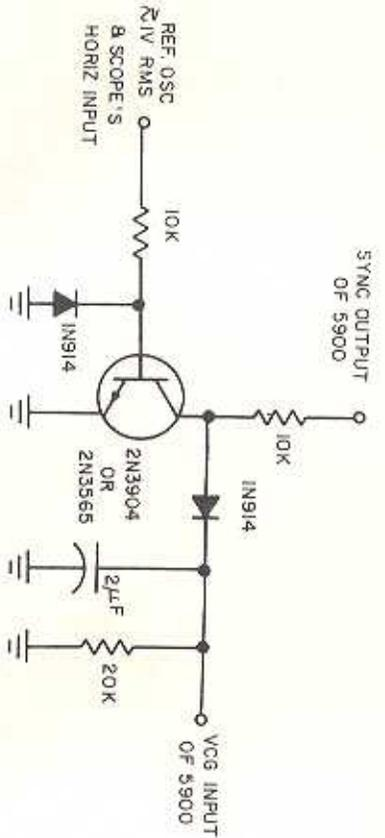

Fig. 39 Phase-lock circuit
- (preferred method) by forming a Lissajous figure. Operate the scope in the X-Y mode. Drive the X-axis with the output of a Wien-bridge oscillator set at 1 KHz. Phase-lock the test unit to this oscillator (see fig. 39) and adjust the frequency control of one of the oscillators slightly until the scope pattern approaches a straight line. Adjust R26 for the best straight line. To obtain a good line, it may also be necessary to adjust R12 very slightly, if the waveform symmetry is not perfect.